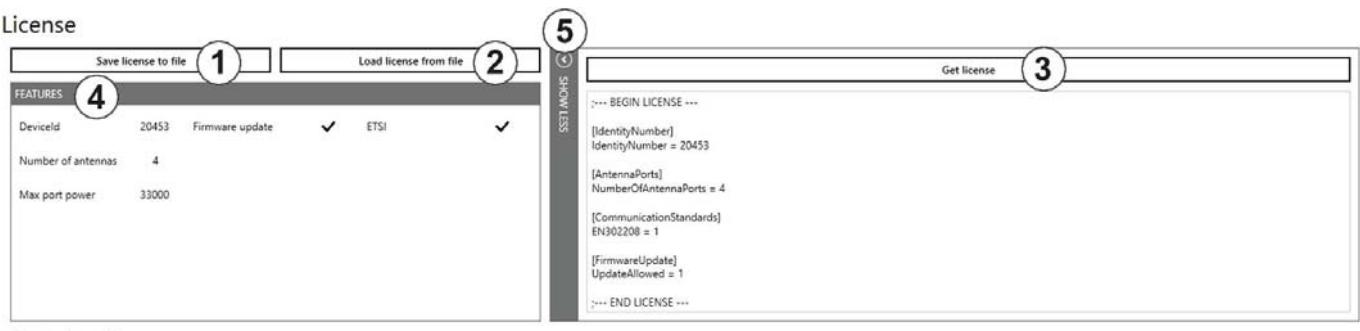

Figure 20 Info: license key
①	Save license to file	saves the license key in a license file
②	Load license from file	loads a license key from a license file
③	Get license	shows the current license key details
④	Features	shows factory-set parameters of the reader
⑤	Show less/Show more	shows/hides the information shown in the right part of the screen under Get license
In certain cases, it is necessary to send the license key to Kapsch TrafficCom. <ol style="list-style-type: none"> <li>1. To do so, click Save license to file (① in Figure 20).</li> <li>2. Select the file name and the destination directory.</li> <li>3. Send the file via email to <a href="mailto:ktc.office@kapsch.net">ktc.office@kapsch.net</a> to the Kapsch TrafficCom support team.</li> </ol>